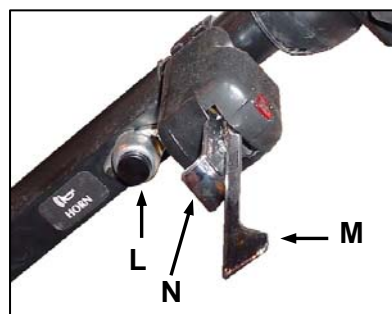

Figure 3.3.3
3.3.12 HORN BUTTON – Figure 3.3.3 Arrow L
3.3.13 TURN SIGNAL/HAZARD WARNING SWITCH – Figure 3.3.3